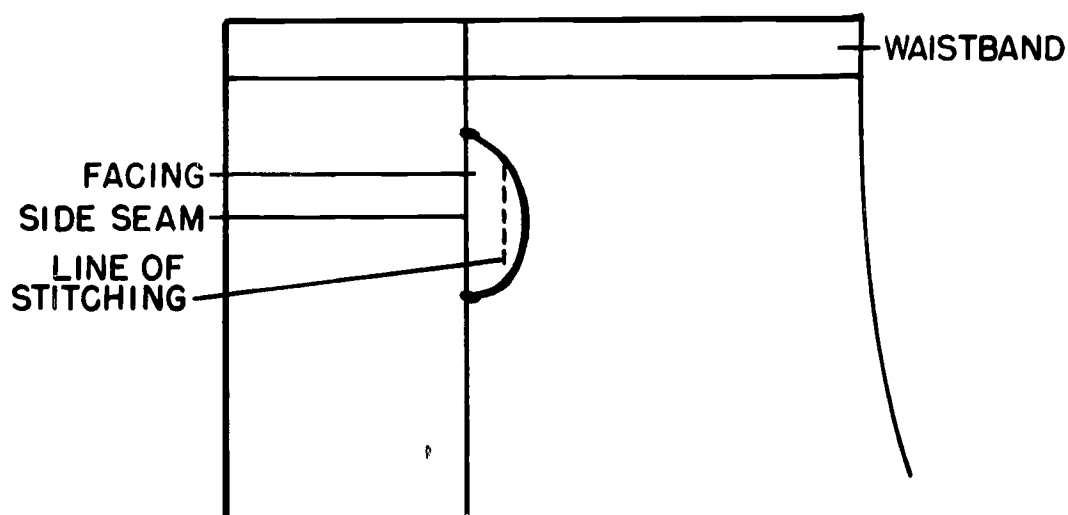

Figure 84.
8. On right side of trousers, topstitch facing to the pocket as it was originally (see Figure 84).